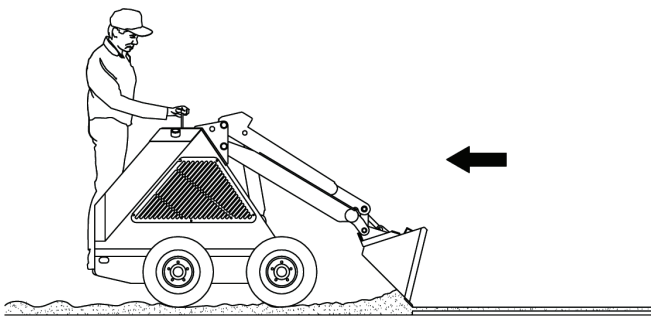

Figure 17
2. To level a filled area, tilt bucket forward and drive machine backwards to drag bucket and spread material, as shown in Figure 17.